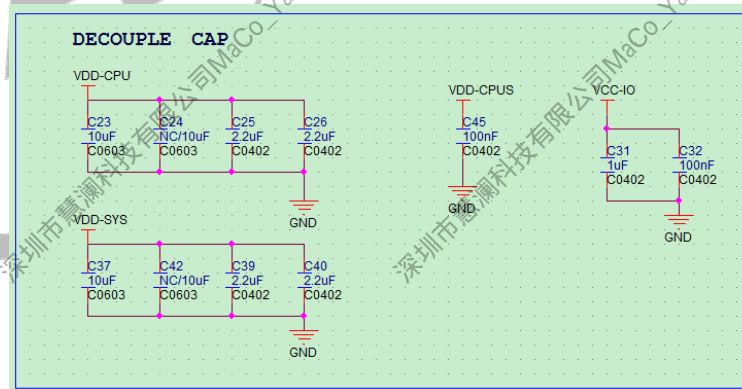

Figure 2-11 SoC Filter Capacitors
- The filter capacitor of SoC cannot delete and must design by strictly following the schematic design of the standard case, or else it will affect the stability of the system. As shown in Figure 2-11.